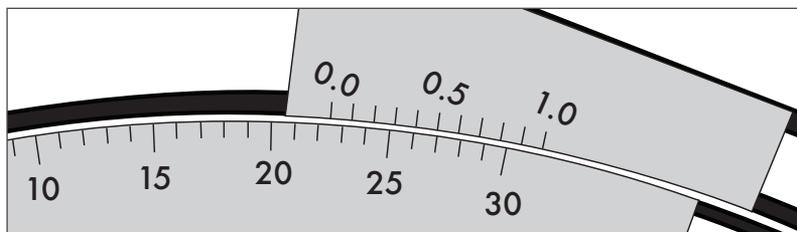

Figure 3
22.5 degrees: Align the 0.0 mark on the vernier scale, above the 22 degree mark on the degree scale. Locate the 0.5 degree mark on the vernier scale then continue rotating the TPT table until the 0.5 mark is directly over the degree mark to its right on the degree scale, which, in this case, is 27. (*Figure 3*)